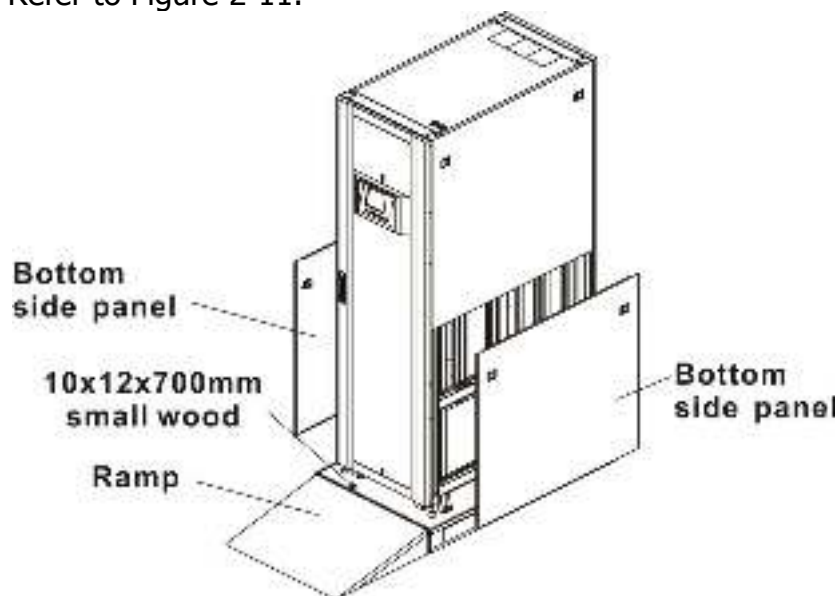

Figure 2-11
3. Put a ramp in the front of the cabinet and insert small wood into groove. Then, remove two side panels. Refer to Figure 2-11.